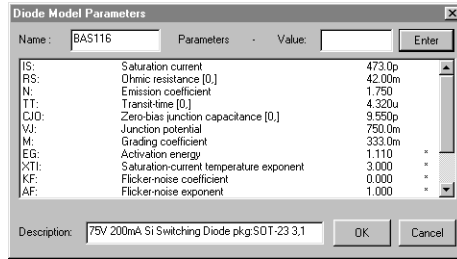

Figure 17.12. Use the Diode Model Parameters dialog box to change the settings of a particular model.
- 2 Click on the **Edit** button to display the dialog box pictured in Figure 17.12.